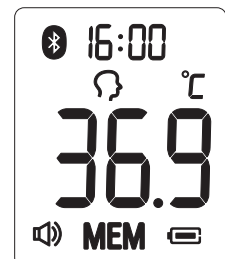

Figure 7
2. The thermometer will automatically memorize the last 30 temperature readings. Each memory also records the measurement date/time/mode icon. Each time the **🔊** **BUTTON** is pressed, the screen displays past readings that correspond with a number 1-30. The number 1 reflects the most recent reading, while the number 30 reveals the oldest reading stored in memory. (See Figure 7)